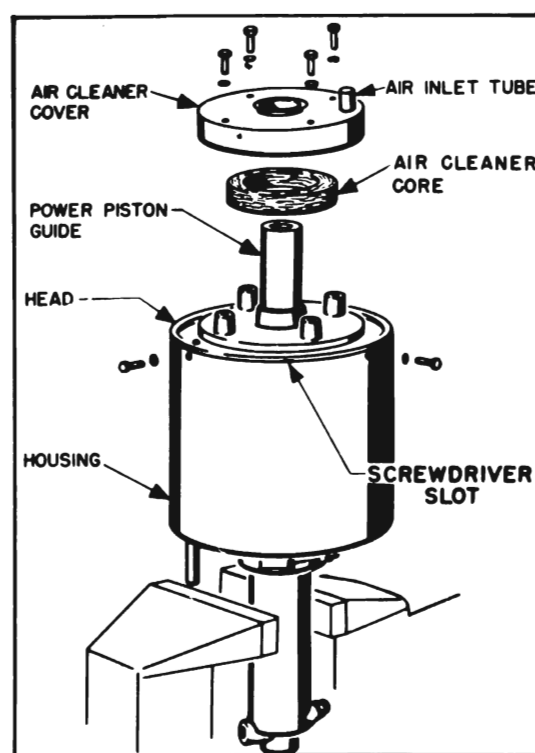

Figure 8-6—Removal of Air Cleaner and Cylinder Head
3. Remove four bolts with lockwashers, pry air cleaner up with screwdriver, and remove cover and air cleaner core. See figure 8-6.
4. Remove three head bolts with lockwashers, then loosen the head by inserting screwdriver in each of the three slots in head flange and twisting to lift head. Free the head from the housing by applying screwdriver under flange and tapping upward with hand or a light hammer. See figure 8-6.